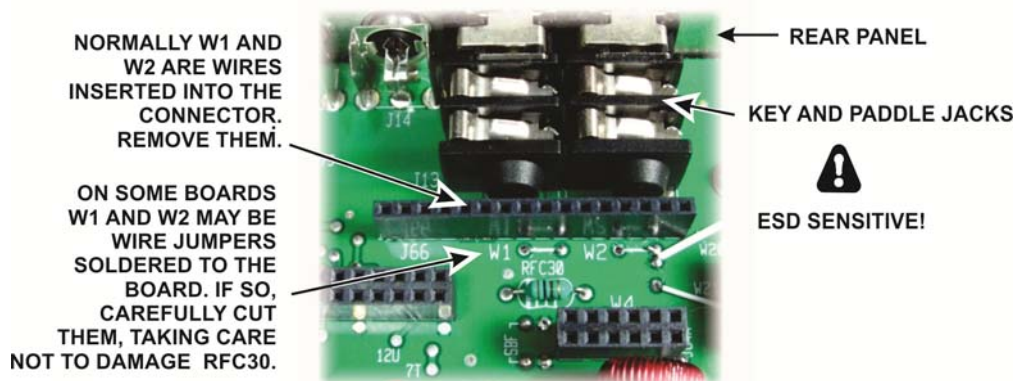

Figure 7. Removing Jumpers W1 and W2.
- Remove jumpers W1 and W2. The jumpers may be wires plugged into connector J66, or they may be wire jumpers soldered to pads on the RF board (see Figure 7). If soldered to the board, take care not to lose any pieces of wire inside the K3. No more than 1/8" (3mm) of lead length should be left to avoid the possibility of shorting to a nearby circuit. **Take care to identify the correct jumpers. Do not cut nearby jumpers W20 or W21!**